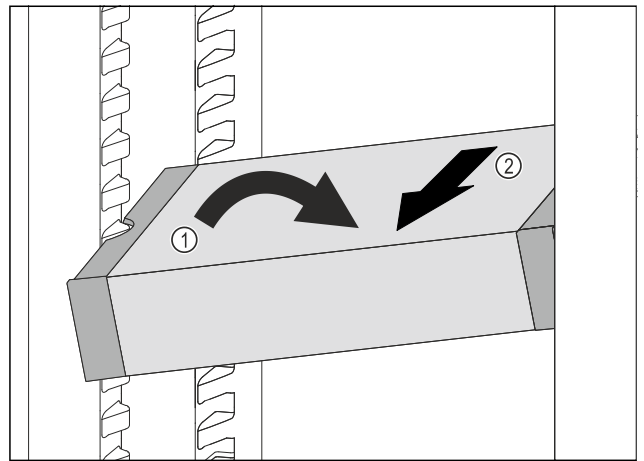

Fig. 103
- ▶ Set VarioSafe in refrigerator compartment at an angle. Fig. 103 (1)
- ▶ Take VarioSafe out to the front. Fig. 103 (2)